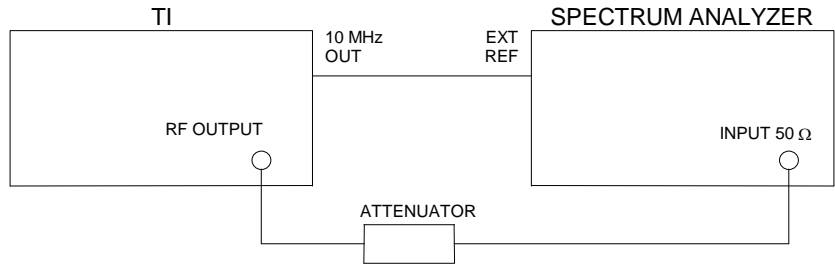

Figure 3.
4.4.2 Connect equipment as shown in Figure 3.